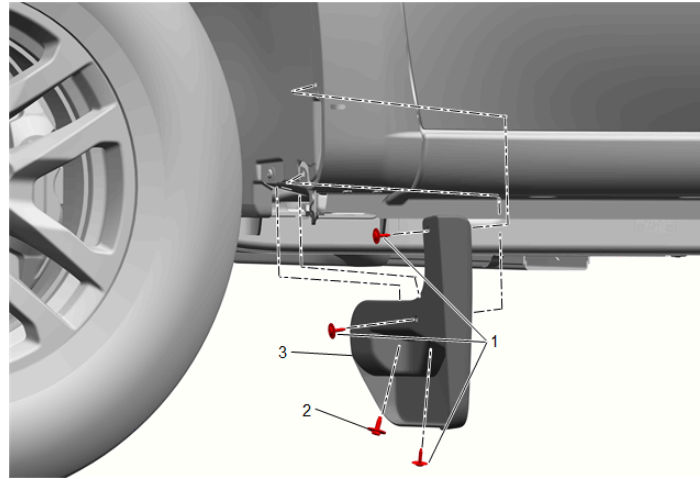

Figure 4
- Remove the three (3) screws holding the splash shield to the wheel well. (**Figure 4, #1**)
- Remove the single bolt from the splash shield. (**Figure 4, #2**)